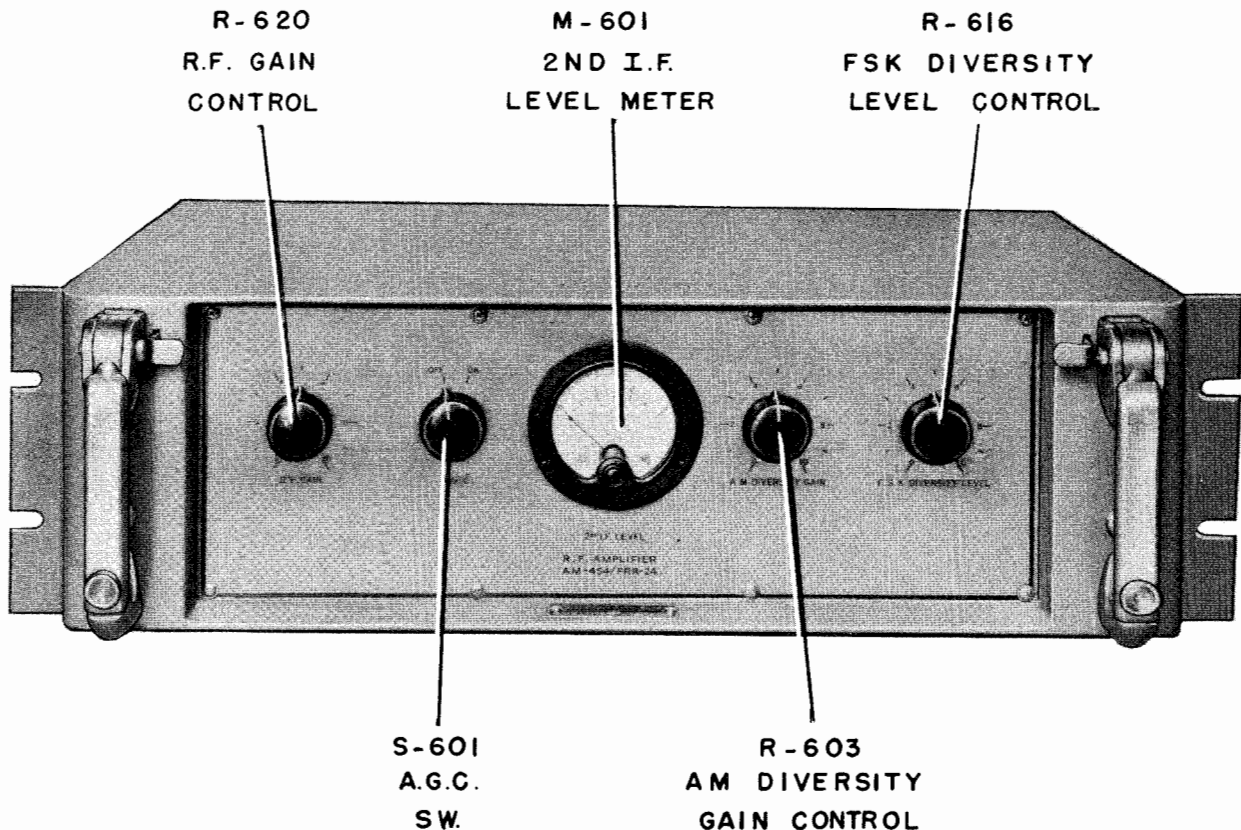

Figure 4-6. R.F. Amplifier AM-454/FRR-24 (units 1H, 2H, 3H), Front Panel Component Identification
(6) LOUDSPEAKER.—A built-in loudspeaker permits audible monitoring of the audio intelligence.
(7) A.F. LEVEL CONTROL.—The audio output level of this unit is adjusted by this control.
(8) PHONES JACK.—This jack provides a means of connecting headphones to the unit to aurally monitor the received signal. It is wired for use with either a single phone plug or a twin plug such as is used on some audio frequency patch cords.
e. R.F. AMPLIFIER AM-454/FRR-24, UNITS 1H, 2H, 3H. (See Figure 4-6).—The major portion of the receiver gain is provided by the R.F. Amplifier AM-454/FRR-24 without adding appreciably to the selectivity. This unit provides outputs at two different levels: one output level is for A1, A2, A3 and F4 signals, the second output is for F1 signals. It is designed to develop a gain of 77 db from input to AM output and a gain of 76 db from input to FS output with a nominal bandwidth of 18 kilocycles in the system.